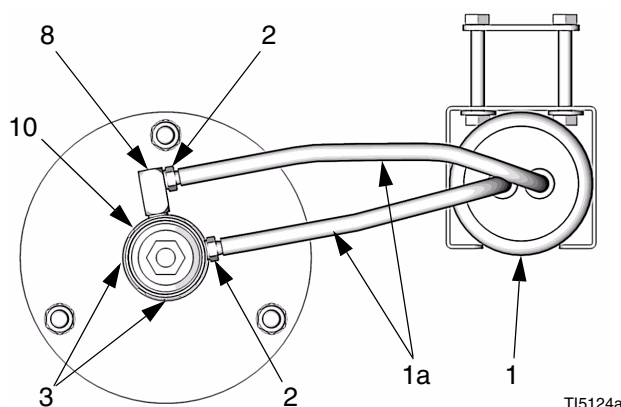

FIG. 4
5. Place reservoir assembly (1) in bracket (5).
6. Pump wet-cup kit (10) has four 1/8 npt ports. Choose port which enables easiest routing of tubing (1a) from reservoir (1). Apply thread sealant and screw barbed fitting (2) into that port. Torque to 10-15 ft-lb (14-20 N•m). **Do not overtighten.** See FIG. 4.
7. Apply thread sealant and screw elbow (8) into most accessible remaining port. Torque to 10-15 ft-lb (14-20 N•m), so that elbow faces same direction as barbed fitting (2) installed in step 6. **Do not overtighten.**
8. Apply thread sealant and screw second barbed fitting (2) into elbow (8). Torque to 10-15 ft-lb (14-20 N•m). **Do not overtighten.**
9. Apply thread sealant and install two plugs (3) in the two remaining ports. Torque plugs to 10-15 ft-lb (14-20 N•m). **Do not overtighten.**
10. Route tubing (1a) from reservoir (1) to barbed fittings (2). Cut to length as needed.
11. Push tubing (1a) straight onto barbed fittings (2). **Do not let tubing kink or buckle.** Secure each tube with a wire tie (7) between two barbs.